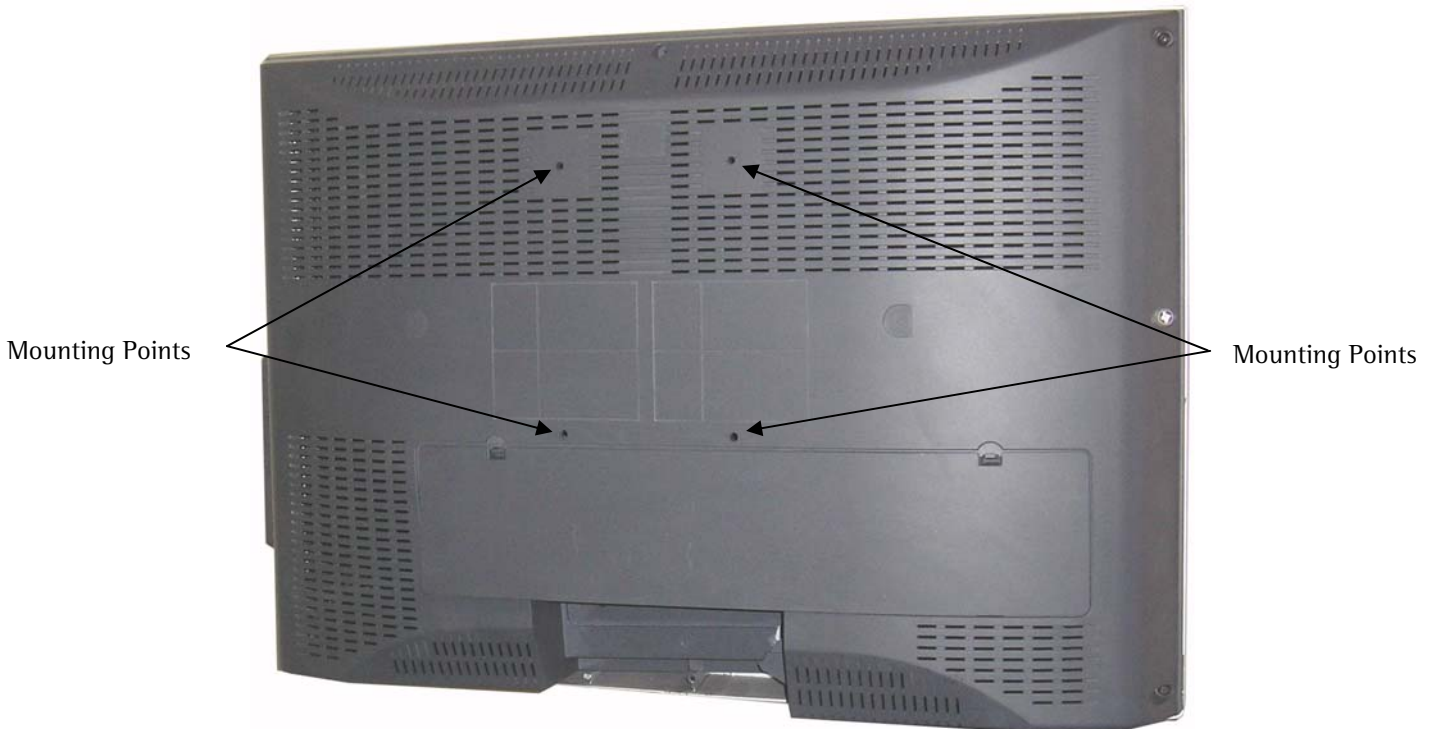

Figure 1. Mounting Points
1. Place the display on a flat and soft surface and locate the four mounting points (Figure 1).